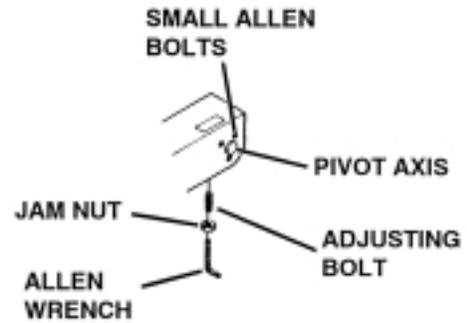

Figure 2-4. Horizontal Adjustment
3. Loosen the jam nut and turn the adjusting bolt located under the table side frame as required until the leg sections are even with each other and level with the table top. See figure 2-4.